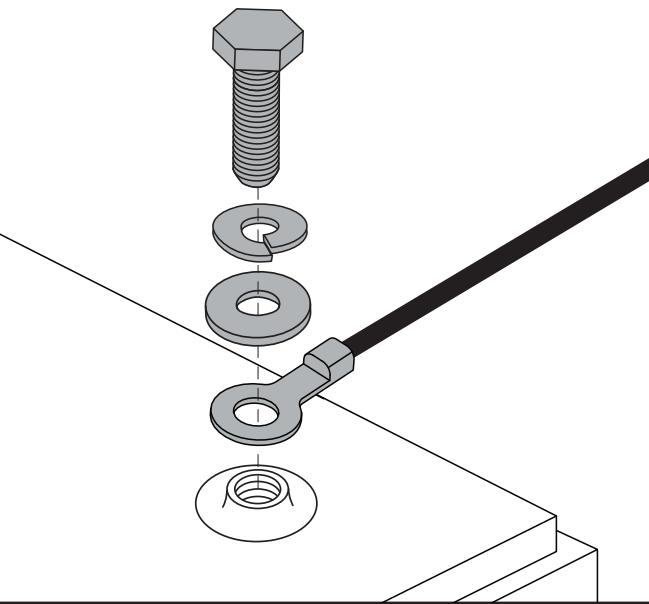

Figure 11. Battery Terminal Hardware
4. Disconnect the battery cables from the battery terminals by sliding back the terminal boots. See figure 11.
**NOTE:** Some scooters have spacers installed to secure the batteries. You may want to remove the spacers for safe keeping until the batteries are replaced in the scooter. See figure 11.